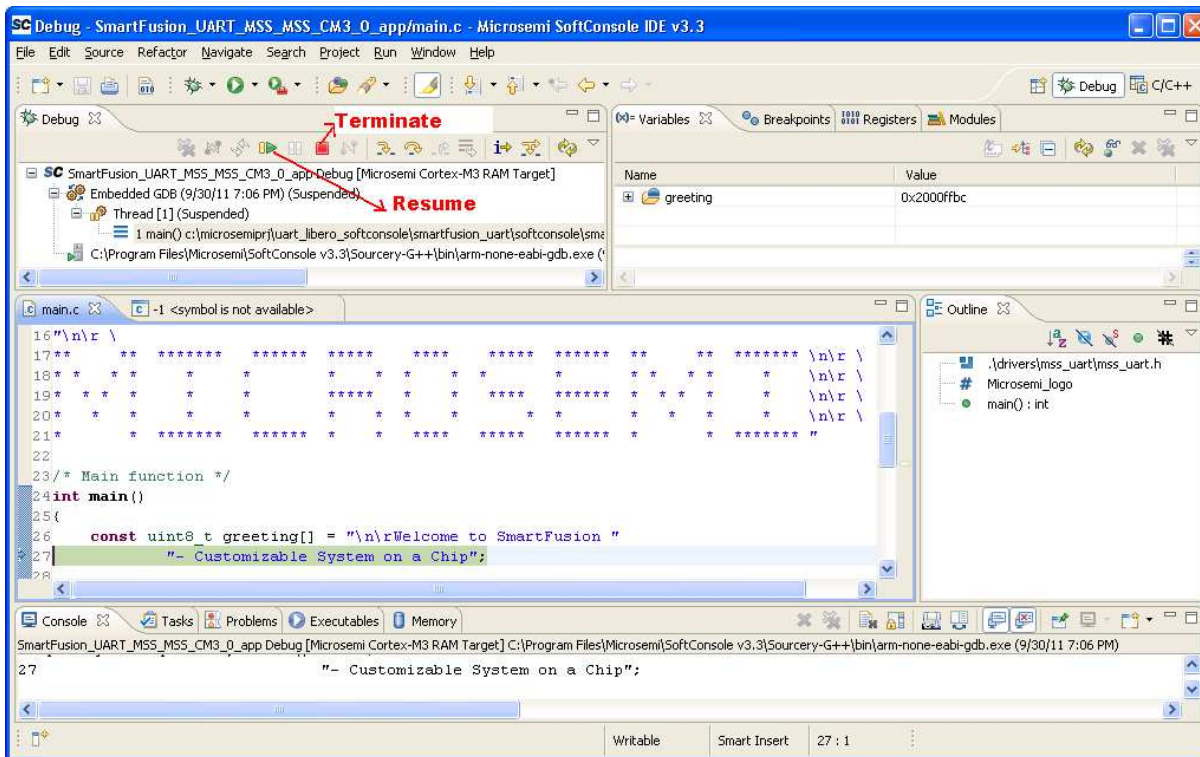

Figure 28 · The SoftConsole Debug Perspective
6. The SoftConsole Debug Perspective window is displayed, as shown in Figure 28 .